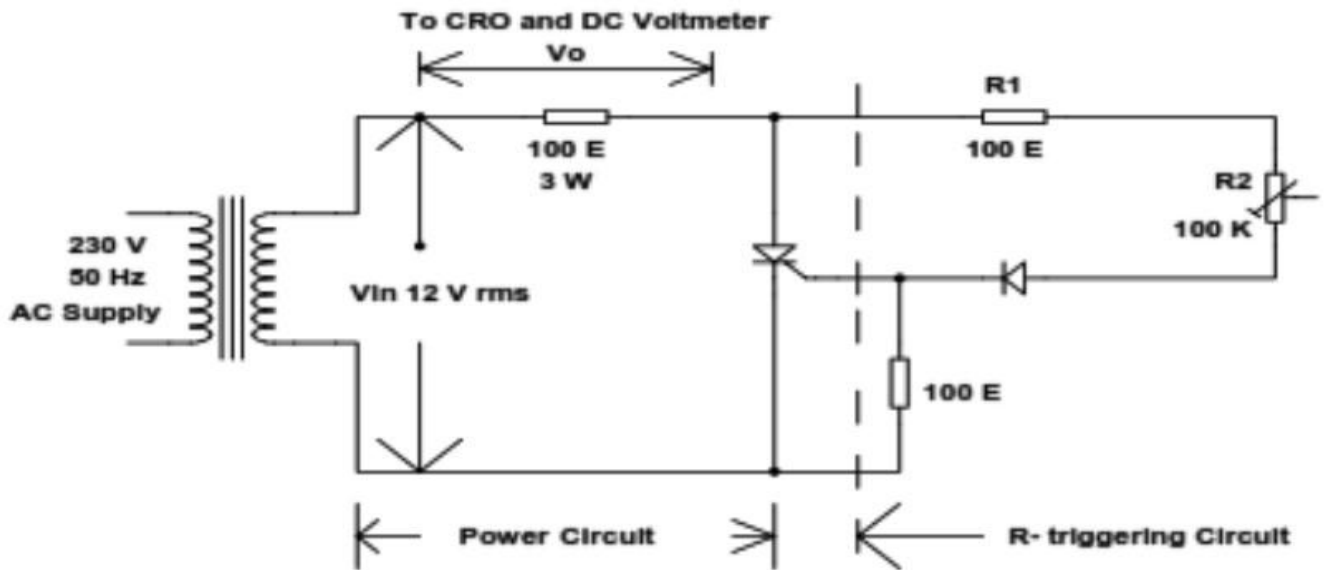

Fig. 4.1 R-triggering Circuit
1. Make the circuit connection as per the circuit diagram shown in Fig.4.1
1. Refer fig. 4.1 and 4.2; state the effect on load voltage if diode is open.
2. Refer fig. 4.1 and 4.2; state the effect on load voltage if R1 and R2 are short circuited.